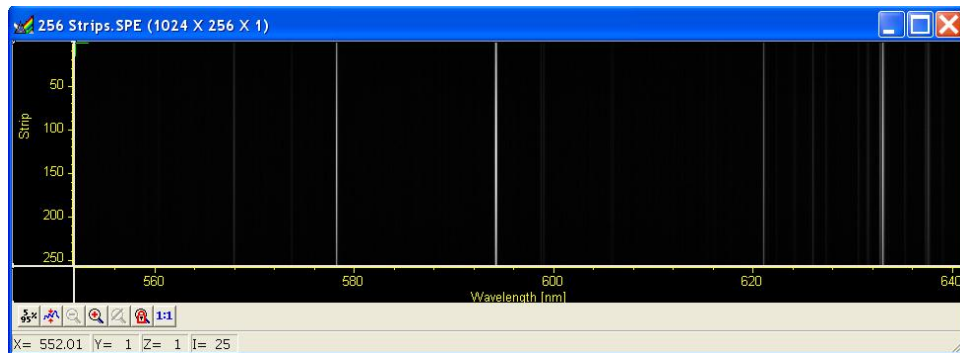

Figure 69. Image display of 256 data strips
- If there are eleven or more strips of data, they will be displayed as a normal image, such as that shown in Figure 69.